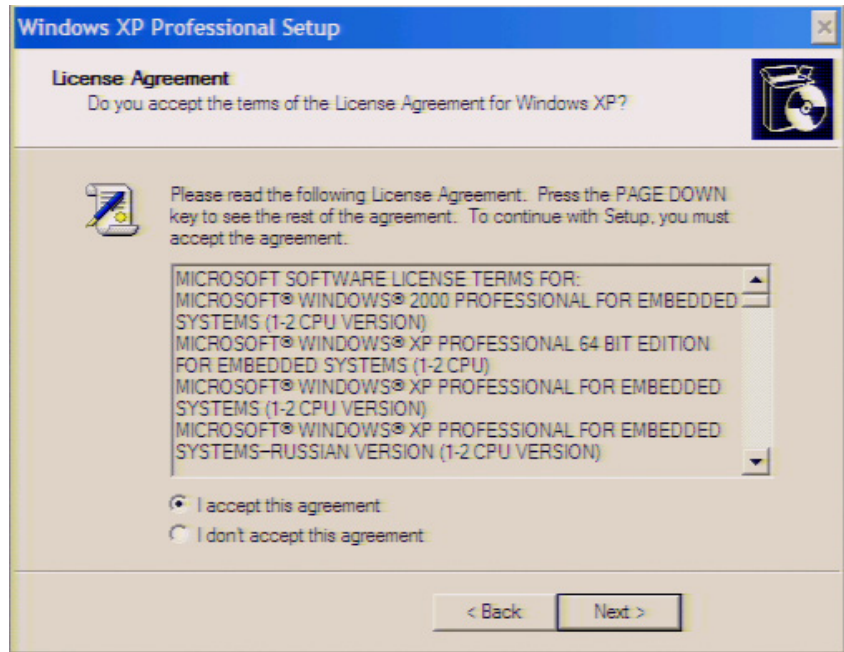

Figure 10 Windows XP Pro for Embedded Systems license agreement dialog box
Step 5. In the License agreement dialog box, select the **I accept this agreement** box and click the **Next >** button. **Figure 10** shows the license agreement dialog box in Windows XP Pro for Embedded Systems (for HDD Rev KY21x and below).